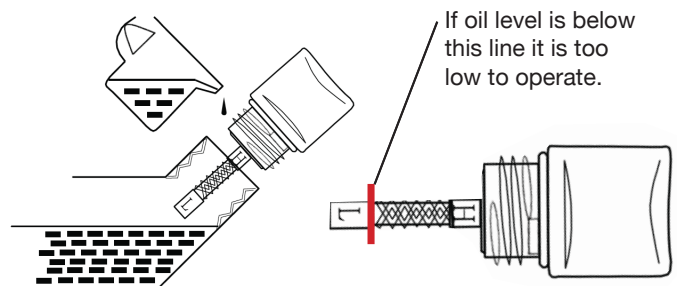

Figure 19 - Checking Oil Level
- **Acceptable Oil Level** – Oil is visible on the crosshatches between the H and L lines on the oil fill plug/dipstick (see Figure 19).
8. Continue to add oil until the oil is at the correct level. (see Figure 19).